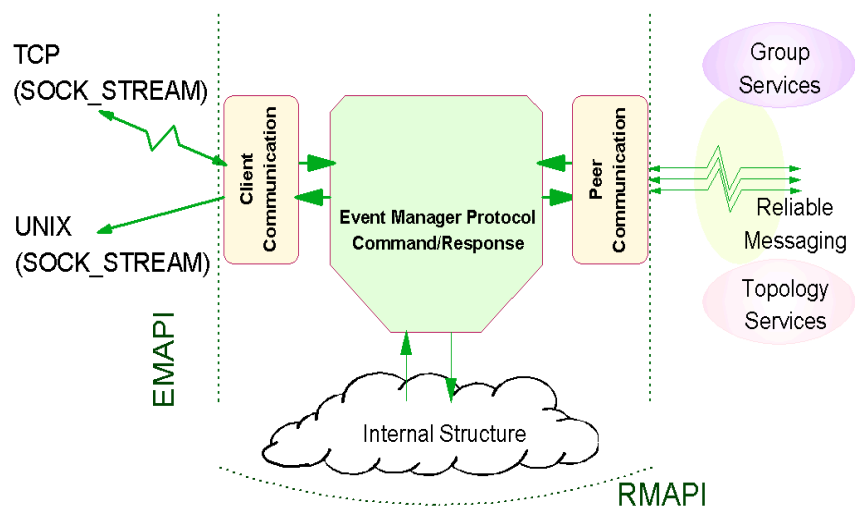

Figure 138. EM Client and Peer Communication
EM is a distributed application, implemented by the EM daemon (haemd) running on each node and the CWS. Similar to Topology Services (TS) and Group Services (GS), EM is partition-sensitive, thus, the CWS may run multiple instances of haemd. To manage its distributed daemons, EM exploits GS. GS lives to serve applications, such as EM. As EM must communicate reliably among its daemons, it uses the Reliable Messaging information built from TS. This is shown in Figure 138.